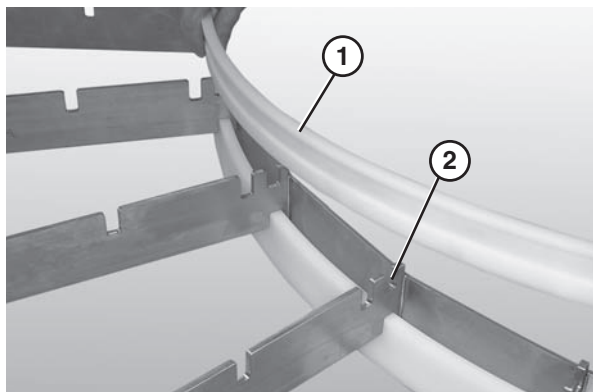

Figure 29
1. Insert the inside curve top wear strip (**Figure 29, item 1**) into the innermost slot (**Figure 29, item 2**) on the inside of the frame.